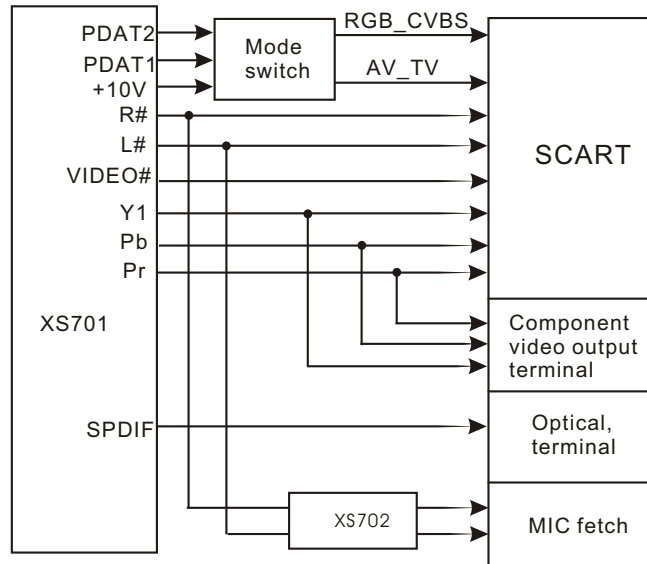

Figure 3.1.14.1 AV output board circuit block diagram
1. AV output board is mainly composed of audio/video output terminal, SCART output terminal, mode switch circuit and filtering circuit. AV output board outputs different signals to connect with the corresponding external equipment. AV output board circuit block diagram is shown as in the following figure 3.1.14.1: